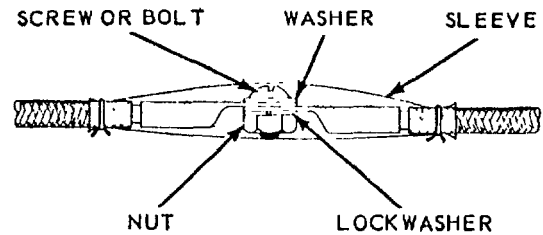

Figure 1. Bolted Terminal Lug Repair of Large Wire
d. For the M22520/5 and M22520/10 tools, see Figure 1 for crimping instructions.
to each wire end, following the procedures described in WP 013 00, this manual. Bolt the terminal lugs together as shown in Figure 1. Slide the insulating sleeve over the connection and tie securely to the wire at both ends.